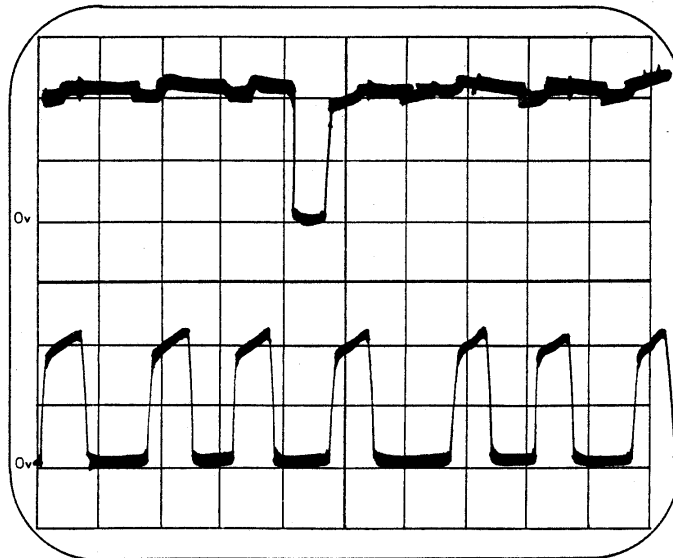

Figure 3-3. Waveforms for Test Points 5 and 1
5. TP5 should appear as in Figure 3-3.